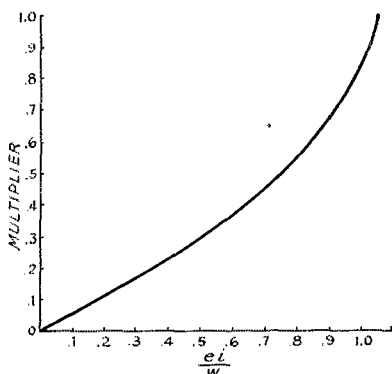

Fig. 2
watts by any misadjustment of the circuit, even including such mistakes as removing plate voltage entirely. (In this, and in all other formulas to follow, currents must be expressed in amperes, voltages in volts, and resistances in ohms.) From expression (1) it turns out that for most tubes, a may be chosen anywhere within a considerable range of values without the maximum possible screen dissipation exceeding the allowable value. One thing of interest is to find out how small a can be made without danger of exceeding the allowable screen dissipation, because the smaller a can be made the better the screen voltage regulation. This can be found as follows: Let W be the allowable watts screen dissipation while ei is of course the normal screen dissipation. (To play extra safe W can be taken somewhat smaller than the maximum rating if desired.) Then the smallest safe value for a is obtained by multiplying the quantity $E/2i$ by the multiplier given by Fig. 2. Once the value of a is decided upon, b may be obtained from the formula
That is all there is to it. To show how the calculation is made in a particular case, consider the 813 tube acting as a grid-modulated amplifier. From the tube instruction sheet we find $E = 2000$, $e = 400$, $i = 0.003$, and $W = 15$. Let us decide to play extra safe and take W as 10 watts. Then $ei/W = 0.12$ and from Fig. 2 the multiplier is
Having now obtained some values for a and b that will make the screen safe under any and all conditions, let us see what sort of voltage regulation there will be. Under normal conditions, of course, the screen voltage will be 400. Now suppose that screen current is stopped completely, as by lack of excitation in the presence of cut-off bias. Then the voltage will become 2000 multiplied by the ratio $b/(a + b)$, or ± 12 volts. This is not much of a rise. In fact, it is so little that we had better start all over again and assume a much smaller value of W so as to come out with much higher values of a and b and thus not waste so much power in them, a thing especially to be avoided in case the voltage applied to a and b is modulated. So let us jump to the extreme case of setting W equal to the normal screen input. Then the screen input is always lessened when the adjustments of the transmitter depart in any way from normal. Taking ei/W as unity, Fig. 2 gives a multiplier of unity and a is found to be a third of a megohm. As a result, b must be two-ninths of a megohm. These resistances are now so great that there is not much power wasted in them, but the regulation is not as good as before. In fact, the screen voltage will be found to rise to twice its normal voltage in the absence of screen current whenever we take W as equal to the normal screen input in calculating a and b .